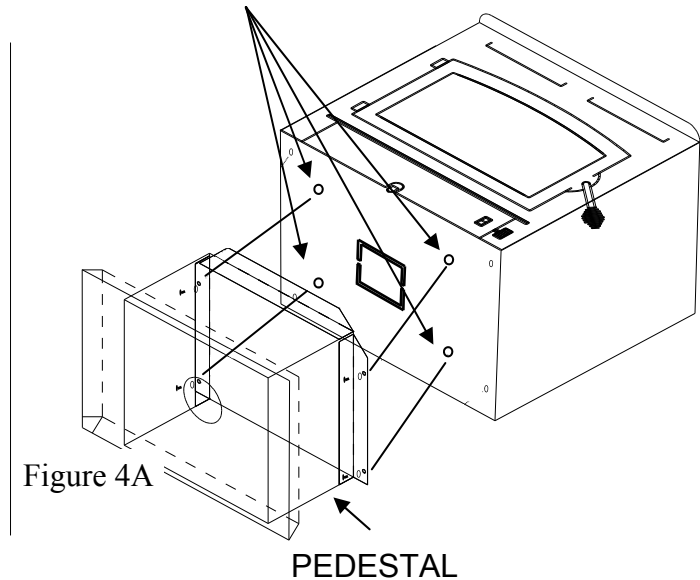

Figure 4A
6. **(Pedestal Kit):** If pedestal kit is being used and **(out side air is required for residential freestanding installation (see page 25 Out Side Air Installation))**. Open freestanding kit and obtain stand. Place stand against bottom of heater (angle side to heater).Center stand front to rear and also center stand left and right. Mark screw locations on bottom of stove through outer holes of stand mounting angles. Set stand aside and drill four 7/32" holes in heater bottom. Then mount stand to bottom of heater with screws provided. (See Figure 4A).
7. Obtain four (4) 3/16" self-tapping screws and secure stand to heater.